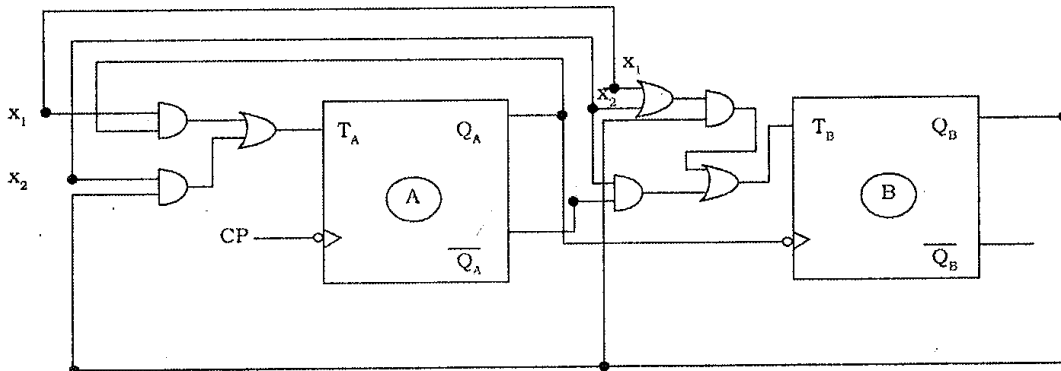

Figure 6.95 Logic Diagram
Step 7: The logic diagram for the given circuit is shown in figure 6.95